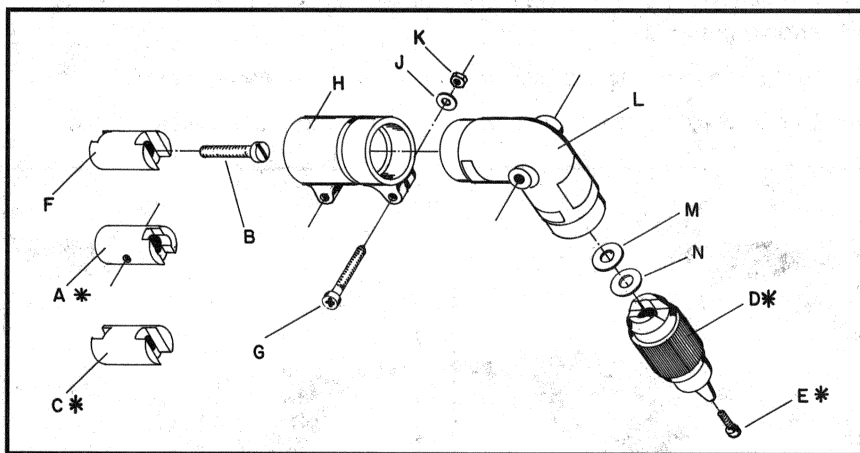
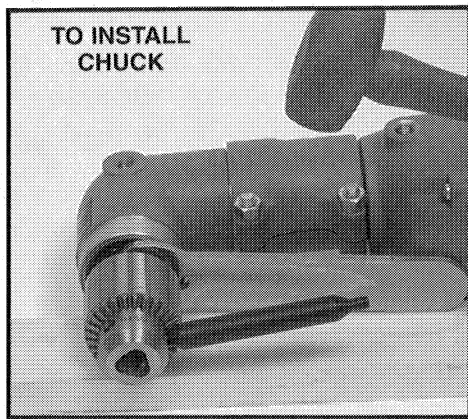

Fig. 3
Fig. 4
**NOTE: MODEL 7554 TYPES 3, 4 and 5,** have a spacer on the spindle behind the chuck. This spacer must be removed from the drill spindle, and be used behind the chuck on the 5079 (a spare spacer (M), Fig. 3, is furnished with the 5079).
**MODEL 7554 TYPES 3 and 4** – Place the short slot end of coupling (F), Fig. 3, (#696794, furnished with 5079) onto drill spindle, mating coupling slot with spindle flats. Install retaining screw (B), Fig. 3, and tighten securely.
**\*NOTE:** Couplings (A) and (C), chuck (D) and screw (E) are not supplied with 5079 attachment.
**MODELS 631, 632, 657, 658, 758, 7553 and 7554 TYPE 2** – Thread coupling (A), Fig. 3, (#862215, available from Porter-Cable Service Centers) onto drill spindle and seat firmly. Install retaining screw (#861729 for 657, #865821 for other models, both available from Porter-Cable Service Centers) and tighten securely.
**MODELS 757 and 7554 TYPE 1** – Place either end of coupling (C), Fig. 3, (#861699, available from Porter-Cable Service Centers) onto drill spindle, mating coupling slot with spindle flats. No retaining screw is required.
1. Place spacer (M), Fig. 3, and brass washer (N) onto the selected end of the 5079 attachment (HIGH or LOW).
**NOTE:** Failure to install the brass washer (N) between the spacer (M) and the chuck can cause the chuck to seize to the shaft.
3. Support chuck on a solid surface, position spindle wrench and chuck key as shown in Fig. 4. Strike chuck key with hammer to tighten chuck.
4. Open chuck jaws as wide as possible and insert screw (E), Fig. 3.
1. Insert the two sleeve screws (G), Fig. 3, into the sleeve.
2. Place washer (J) on each protruding screw and thread hex nut (K) onto screw.
3. Slide sleeve (H) onto drill gear housing and hand tighten screw and nut on gear housing end of sleeve.
4. Insert right angle housing (L) into sleeve and rotate until flats on right angle drive shaft fit into slots in coupling.
6. Rotate attachment until the chuck is in the desired position, use two ½" wrenches to tighten screws (G) and nuts (K) securely.
**NOTA: EL MODELO 7554 TIPOS 3, 4 y 5** tiene un separador en el husillo, detrás del mandril. Este separador debe quitarse del husillo del taladro y utilizarse detrás del mandril en el aditamento 5079 (con el aditamento 5079 se suministra un separador de repuesto (M), Fig. 3).
**MODELOS 757 y 7554 TIPO 1.** Coloque cualquiera de los dos extremos del acoplamiento (C), Fig. 3, (No. 861699, disponible en los Centros de Servicio de Porter-Cable) en el husillo del taladro, haciendo coincidir la ranura del acoplamiento con las superficies planas del husillo. No se necesita tornillo de retención.
1. Coloque el separador (M), Fig. 3, y la arandela de latón (N) en el extremo seleccionado del aditamento 5079 (HIGH o LOW, es decir, ALTA o BAJA).
**NOTA:** Si no se instala la arandela de latón (N) entre el separador (M) y el mandril, el resultado puede ser que el mandril se agarrote en el eje.
4. Abra las mordazas del mandril tanto como sea posible e introduzca el tornillo (E), Fig. 3.
1. Introduzca los dos tornillos del manguito (G), Fig. 3, en el manguito.
2. Coloque una arandela (J) en cada tornillo que sobresale y enrosque una tuerca hexagonal (K) en cada tornillo.
3. Deslice el manguito (H) sobre la caja de engranajes del taladro y apriete a mano el tornillo y la tuerca en el lado del manguito que está en la caja de engranajes.
4. Introduzca la carcasa en ángulo recto (L) en el mandril y gírela hasta que las superficies planas del eje del aditamento en ángulo recto se acoplen en las ranuras del acoplamiento.
6. Gire el aditamento hasta que el mandril esté en la posición deseada y utilice dos llaves de tuerca de ½" para apretar firmemente los tornillos (G) y las tuercas (K).